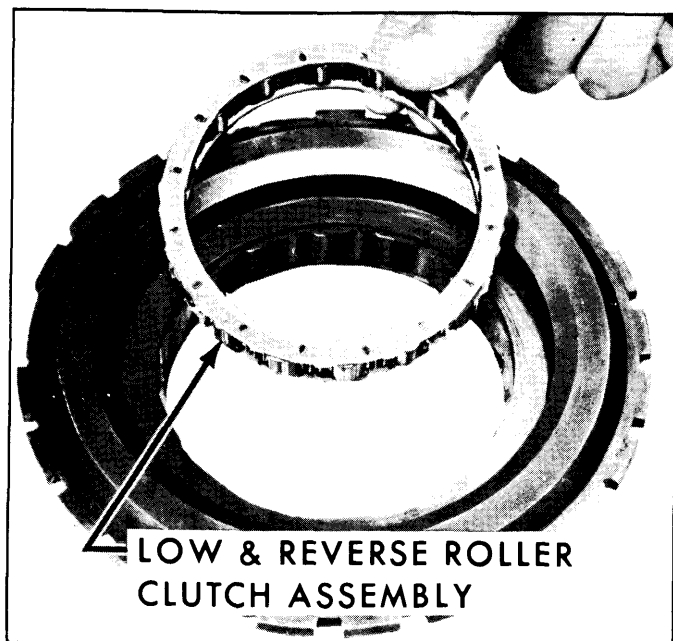

Fig. 7-94—Removing Overrun Roller Clutch Assembly
4. Remove low and reverse roller clutch assembly. (Fig. 7-94)